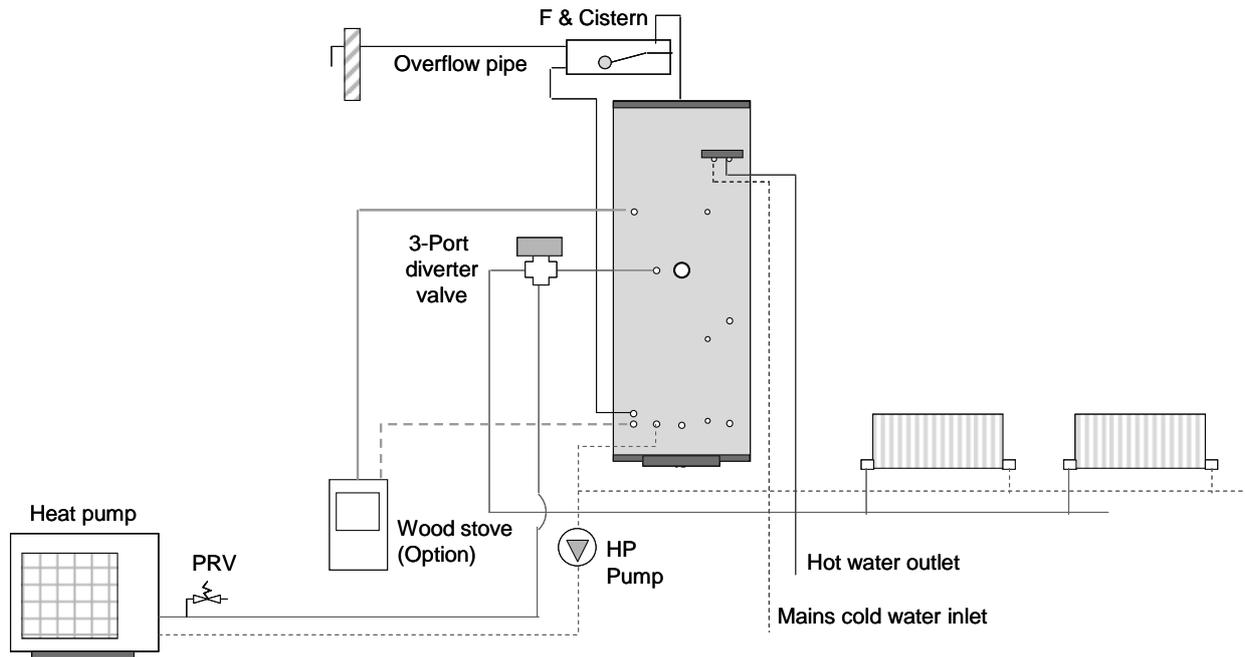
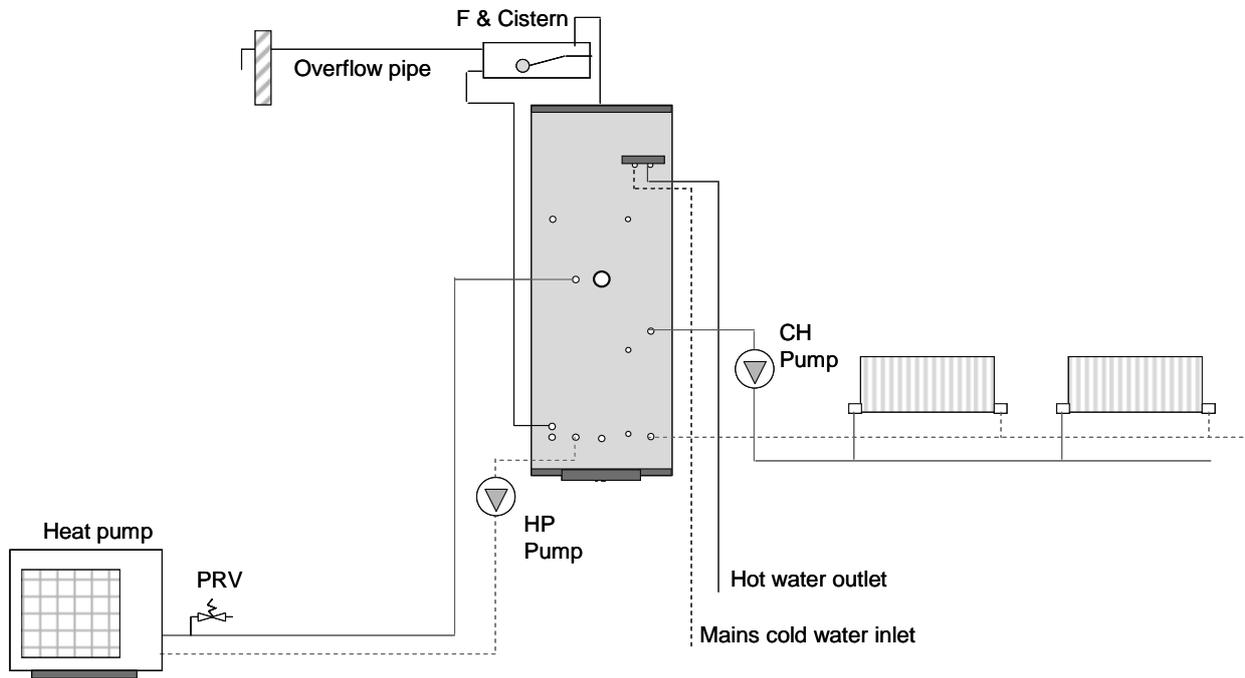

Figure 6: Typical Torrent^{HP} system configuration with an optional wood burning stove and central heating supplied directly from the heat pump.
Figure 7: Typical Torrent^{HP} system configuration with central heating supplied from a thermal store
The Torrent MultiFuelStore HP models are designed to be heated directly by the heat pump and the central heating can be supplied directly from the heat pump as shown in figure 6 or from a thermal store as shown in figure 7.
The Torrent MultiFuelStore HP models are designed to be heated directly by an air or a ground source heat pump and the space heating can be supplied directly from the heat pump circuit as shown in figures 6 and 8 or from the thermal store as shown in figures 7 and 9. The selection between the two options will depend upon the operating characteristics of the heat pump, type of heating system and control strategy. For general guidance: -
- If the heat pump requires a buffer for operation; for example to reduce rapid cycling etc, then the system would benefit if the heating system is supplied from the thermal store (figures 7 and 9). In this configuration, the operation of the heat pump is only controlled by the store thermostat(s).
- If the heat pump is multi-stage or modulating type or has weather compensating controls, then the space heating circuit should be supplied directly from the heat pump as shown in figures 6 and 8. In this system configuration, the thermal store is only used for producing hot water.
Where the whole of the heating system is supplied from the thermal store, figures 7 and 9, then a ballvalve and overflow should be fitted in the feed and expansion tank.
Where the heat pump supplies the heating circuit directly, figures 6 and 8, then fitting a ballvalve and overflow is optional if it is practical on occasions to manually fill the store. However, fitting a ballvalve and overflow will eliminate the need for the householder to undertake this task and is therefore preferable. If the siting of the Torrent MultiFuelStore HP makes it difficult to fit an overflow then the 'manual fill' option can be used. In all cases, if a ballvalve is fitted, then an overflow/warning pipe must always be fitted.